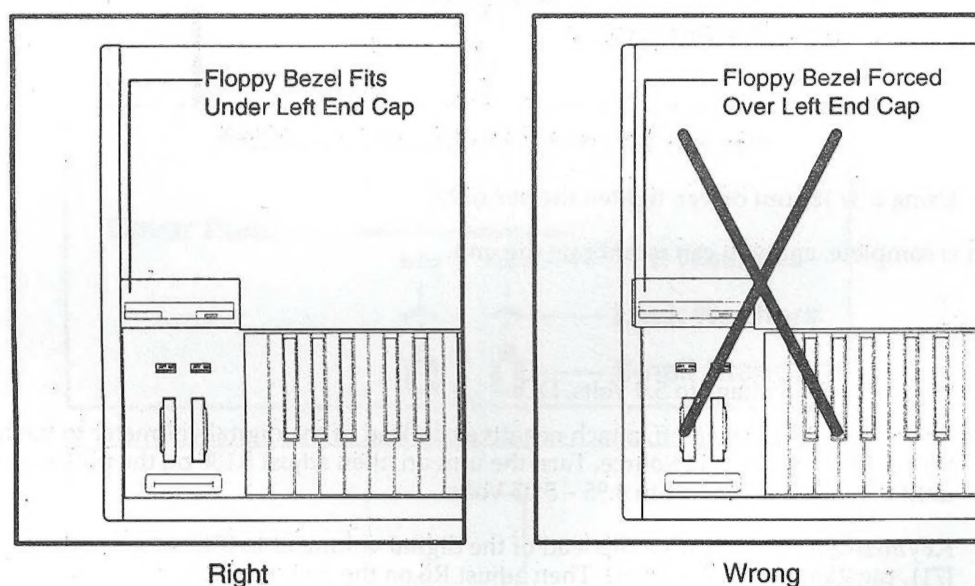

Figure 16.
2. When you have completed all connections, tilt the top cover back onto the body of the K2500. First, slide the left end into place, making sure to fit the Floppy Disk Bezel under the left end cap. Figure 16 illustrates the right and wrong way to fit the Floppy Disk Bezel.